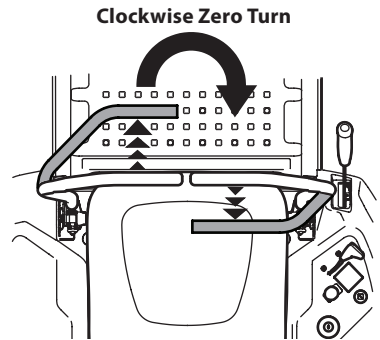

Figure 28
2. To turn clockwise, move the left lapbar drive control lever forward while simultaneously moving the right lapbar drive control lever rearward. See Figure 28.